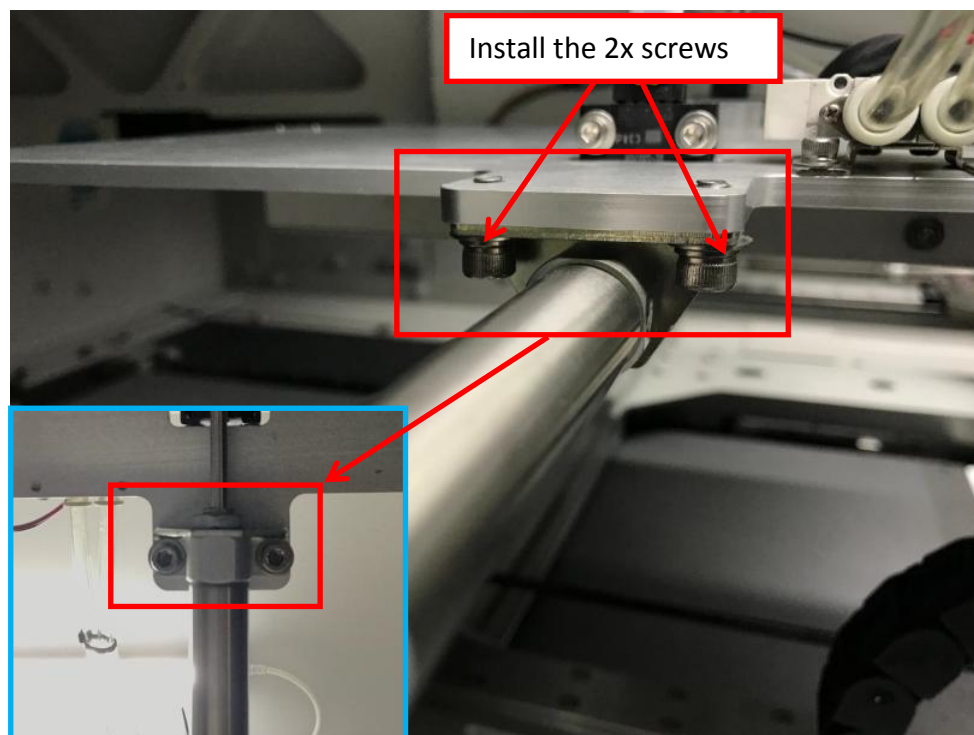

Figure 12 Inner Barrier Module
3. Assemble Inner Barrier Cylinder Module as Figure 12. Tighten 2 x Screws.